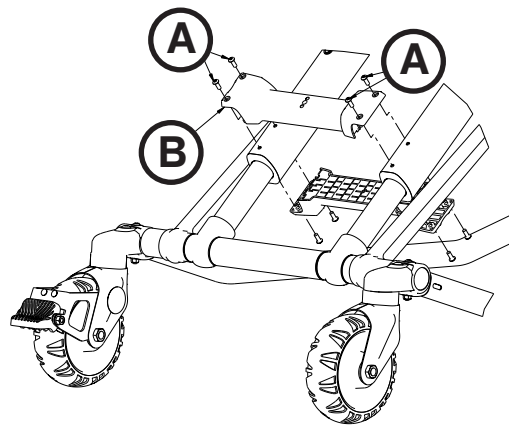

Figure 68
1. Using a T25 Torx driver, remove the four button head cap screws (A) from the base stiffener (B) (Figure 68).